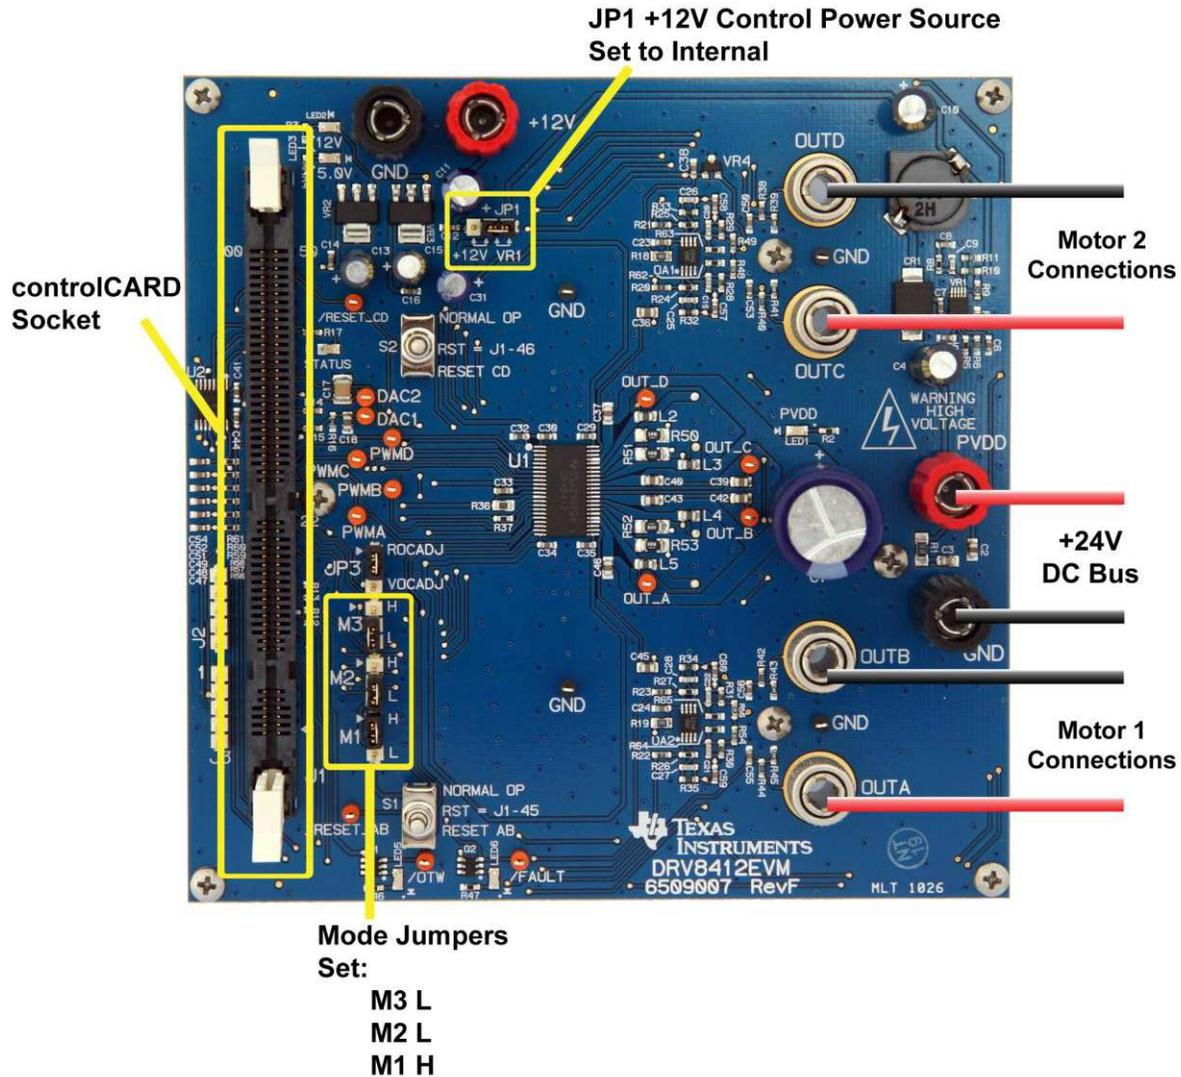

Figure 4. EVM Connections
3. Ensure the DRV8412 mode jumpers and the +12V source jumper are set according to Figure 4.
For reference, Figure 4 shows the jumper and connectors that need to be connected for this lab.